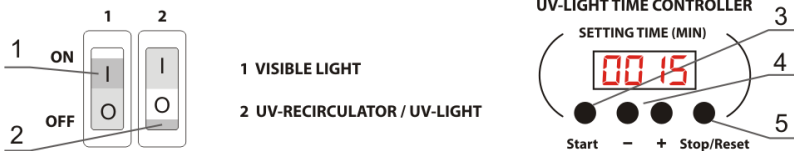
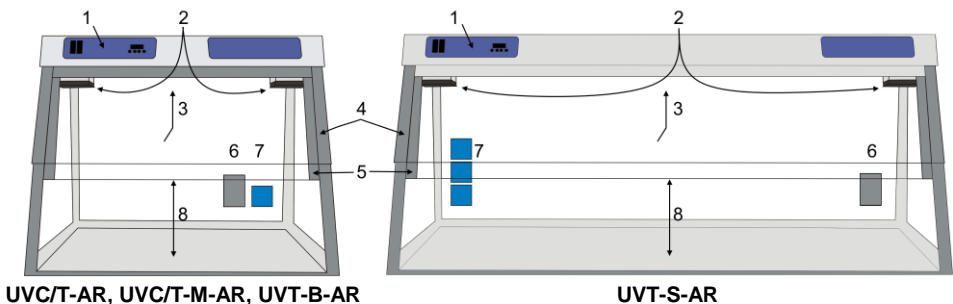

Figure 2. Control panel
Figure 3. DNA/RNA UV box, frontal view:
- 5.2.1. Turn ON the switch **2** (fig. 2/2) on the control panel (fig. 3/1). This switches on the UV recirculator inside the unit (fig. 3/2) and the open UV-lamp exposition timer. The UV recirculator will operate all the time until the switch **2** is turned OFF.
- 5.2.2. Use the timer **+** and **-** keys (fig. 2/4) to increase and decrease the time (SETTING TIME) of direct UV light exposition of the working place, with 1 min increment. Pressing down and holding the button for more than 2 seconds increases the increment. Recommended time of exposition is two sessions of 30 minutes, once after switching on the cabinet, once before operations inside.
- 5.2.3. Press the **Start** key (fig. 2/3), the UV lamp will be turned on automatically and the timer will start counting the exposition time. Timer indicator shows actual time: until 1 hour - in minutes and seconds (mm:ss), after 1 hour - in hours and minutes (hh:mm). After reaching the set time the timer will automatically turn off the open UV lamp.
- 5.2.4. The open UV lamp can be switched off by pressing the **Stop/Reset** key (fig. 2/5). The set time of exposition will be saved in the memory. The set time will not be saved after the complete turning off the unit.
- 5.3.1. Turn ON switch **1** (fig. 2/1) for lighting of the working place. This turns ON the luminescent (visible light) lamp inside the cabinet (fig. 3/3).
- 5.3.2. Lift the front protective screen (fig. 3/5) up for work in the cabinet. Models have different maximum opening heights (fig. 3/8), as listed in the **Specifications** section, and may be raised to the following positions:
Note. Do not block the recirculator openings (fig. 3/2)!
- 5.3.3. To use electric devices inside the cabinet, pull their power cable through the inlet and close the flap (fig. 3/6) or connect the power cable to a built-in mains socket (fig. 3/7, models with mains socket).
- 8.5. **Dust filter replacement.** The dust filters (fig. 3/2) on either end of the UV recirculator with the hidden UV lamp should be checked monthly and cleaned or replaced when they become clogged. To check, replace or clean the filters, simply unclip the covers, fit a new filter if necessary or rinse current filters in water, dry and place back. Clip covers back in place.